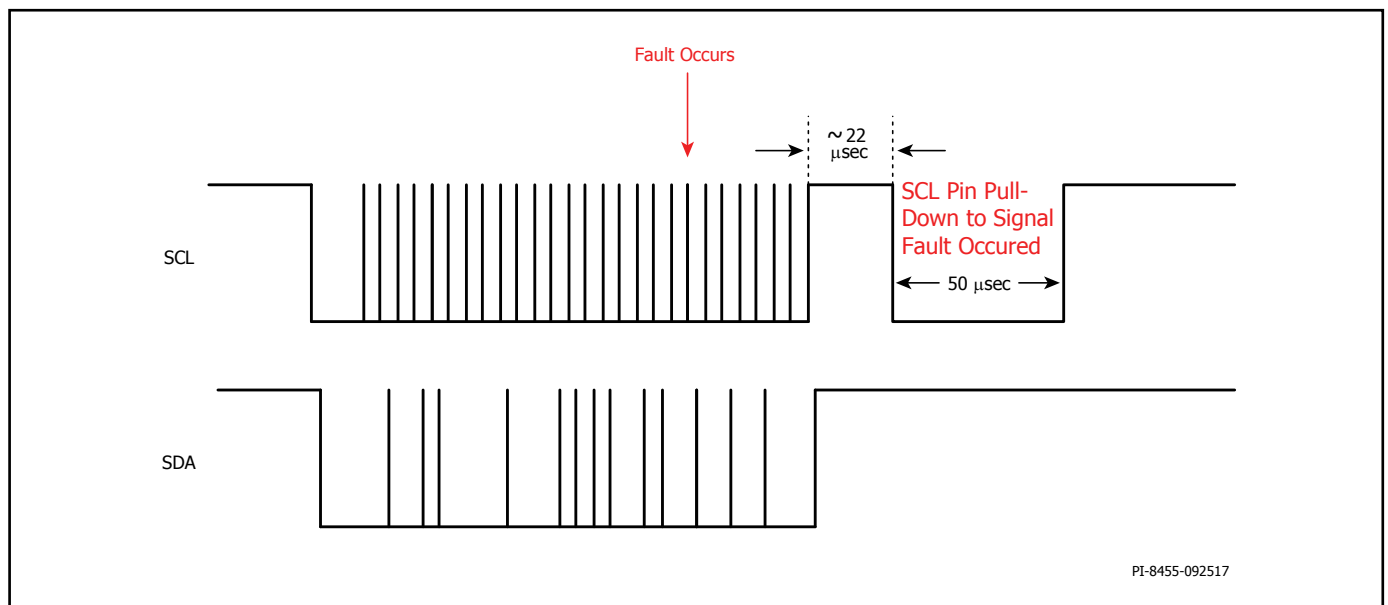

Figure 20. Interrupt Mask During Active I2C Transaction.
2. When the SCL pin is busy (active I2C transaction) (see Figure 20), the fault interrupt will wait for the I2C transaction to be completed, wait ~22  $\mu$ sec and then pull down the SCL line for 50  $\mu$ sec (minimum) then releases it back to HI State.